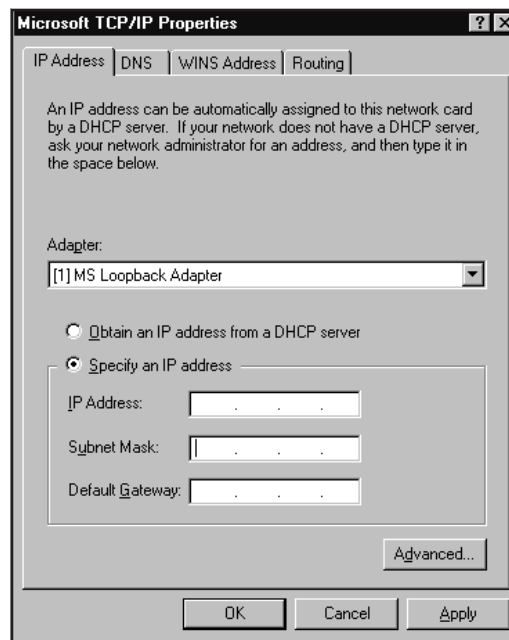

Figure 198 Microsoft TCP/IP Properties
5. Press the Close pushbutton to exit the Network setting dialog. At this time you will be prompted (via a dialog shown in Figure 198) for setup of TCP/IP properties.